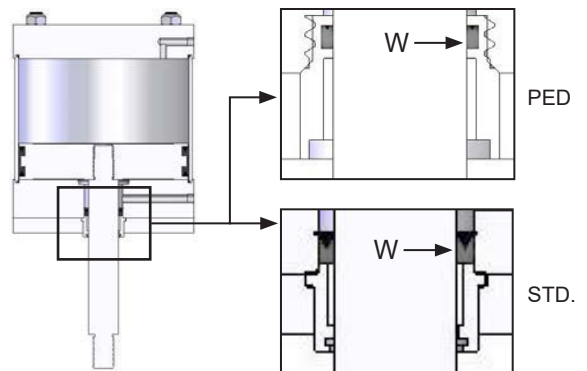

Figure 30. Reassemble the Rod Seals and Flange
- b) Using a clean, lint-free cloth, apply a thin layer of STP® brand lubricant to BEARING ASSEMBLY (V), and o-ring grease to ROD SEAL (W).
- c) Ensure orientation of seal is correct as pictured in figure 30. Reassemble ROD SEAL (W), BEARING ASSEMBLY (V), GLAND PLATE (U), and GLAND SCREWS (T).